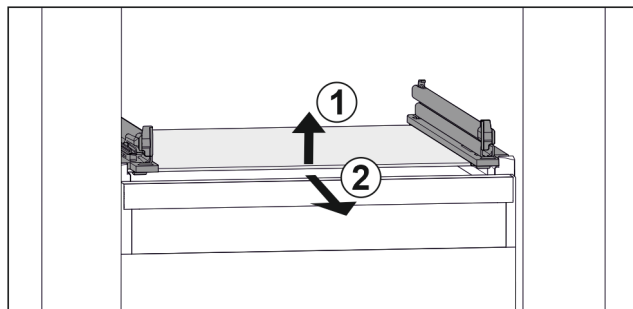

Fig. 94 Example illustration of glass shelf
- ▶ Lift glass shelf at the front. Fig. 94 (1)
- ▶ Remove glass shelf to the front. Fig. 94 (2)